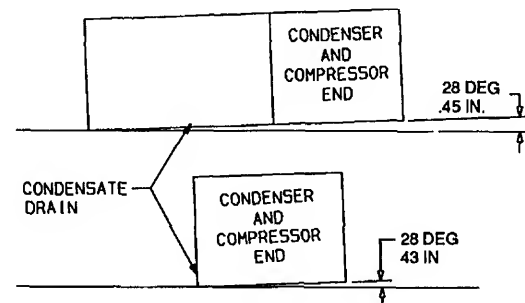

Fig. 1 — Roof Curb Details
ROOF CURB — Assemble and install accessory roof curb in accordance with instructions shipped with the curb. Accessory roof curb and information required to field fabricate a roof curb are shown in Fig. 1 and 2. Install insulation, cant strips, roofing, and counter flashing as shown. Ductwork can be secured to roof curb before unit is set in place.
IMPORTANT: The gasketing of the unit to the roof curb is critical for watertightness. Install gasket supplied with the roof curb as shown in Fig. 1. Improperly applied gasket can result in air leaks and poor unit performance.
Step 2 — Rig and Place Unit — Inspect unit for transportation damage. File any claim with transportation agency. Keep unit upright, and do not drop. Use spreader bars over unit to prevent sling or cable damage. Rollers may be used to move unit across a roof. Level by using unit frame as a reference; leveling tolerance is $\pm 1/16$ in. per linear ft in any direction. See Fig. 1 for additional leveling tolerance information. Unit weight is shown in Table 1.